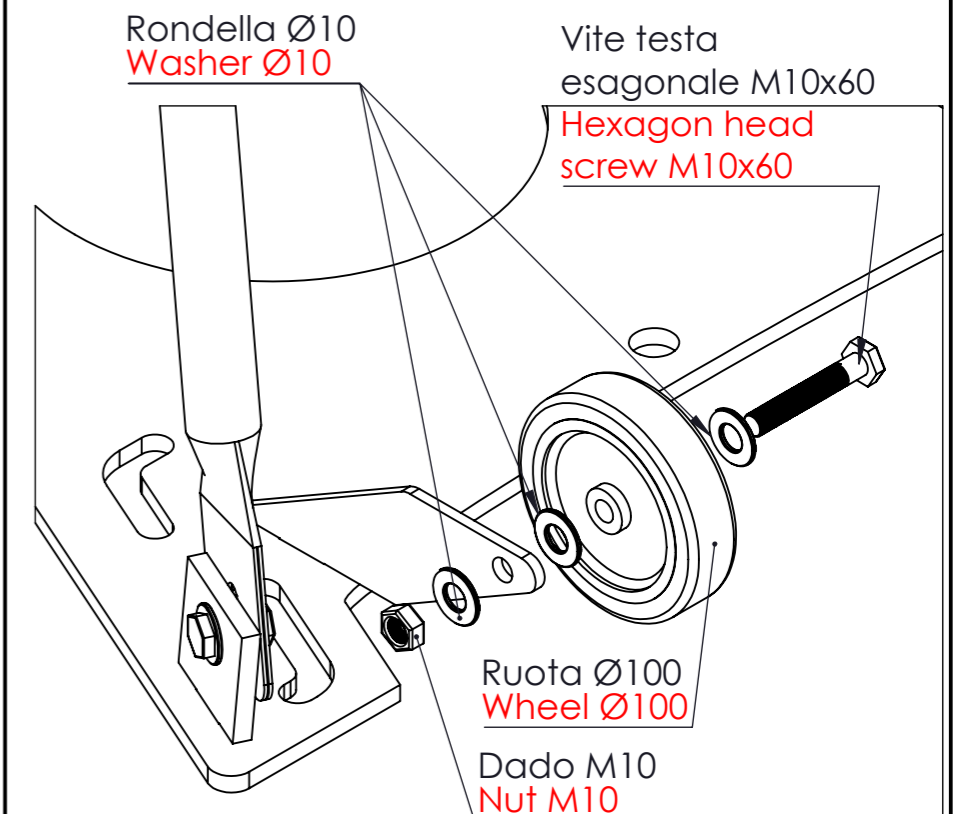

FIG. 4
4. Fit the wheels using the M10x60 hexagon head screws, inserting washers and M10 nut as shown in Figure 4, and fully tighten all fastenings.